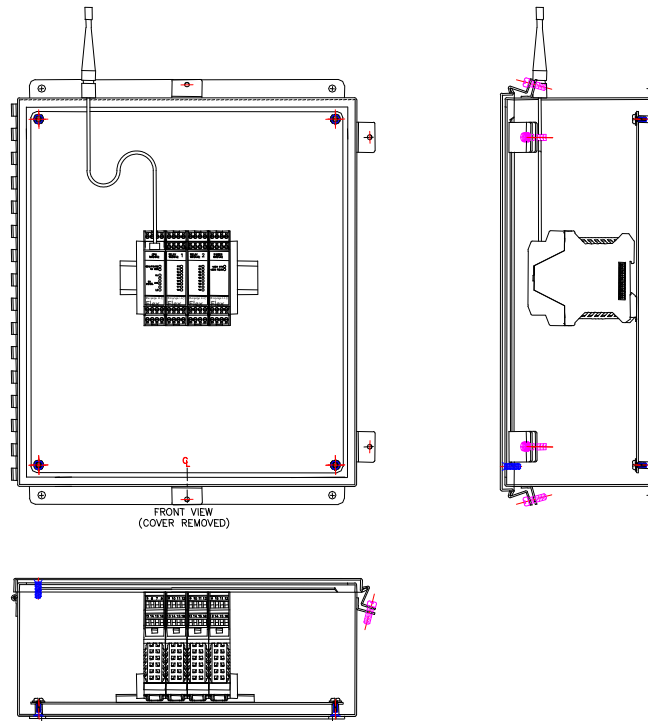

Figure 2: Example of Flex M Mounted in an Enclosure
5. If obstructions cannot be cleared, or the unit must be mounted inside a metal enclosure, the remote antenna should be used (see Figure 2)